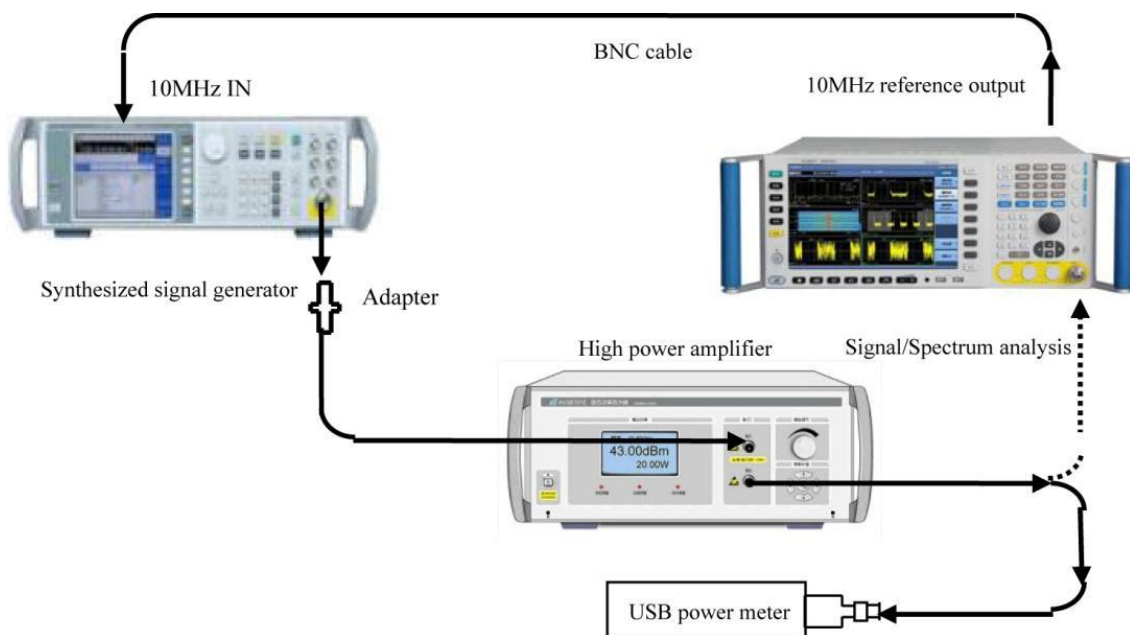

Fig. 8.8 Schematic diagram of maximum safety input level test
- 3) Connect the test equipment according to solid lines of Fig. 8.8 with the output cable of the high power amplifier connected to the USB power meter sensor rather than the signal/spectrum analyzer.